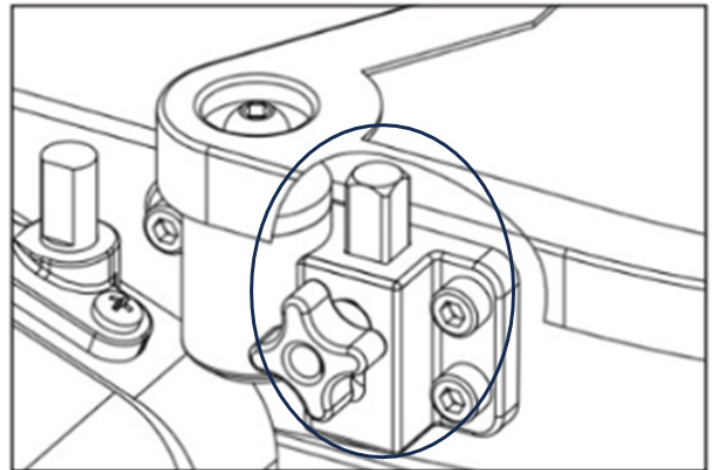

Figure 23: Moving the Cutterhead Guard.
3. **Release Interlock Keys\*\*:** On both sides of the outfeed table, release the interlock keys. These keys facilitate the removal of the dust port housing (Figure 23).